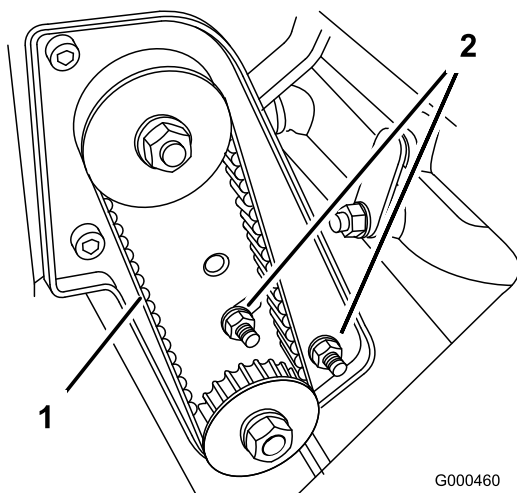

Figure 36
- A. Loosen the bearing housing mounting nuts (Figure 36).
C. While holding the torque wrench setting, tighten the bearing housing mounting nuts (Figure 36). Do not over-tension belt.